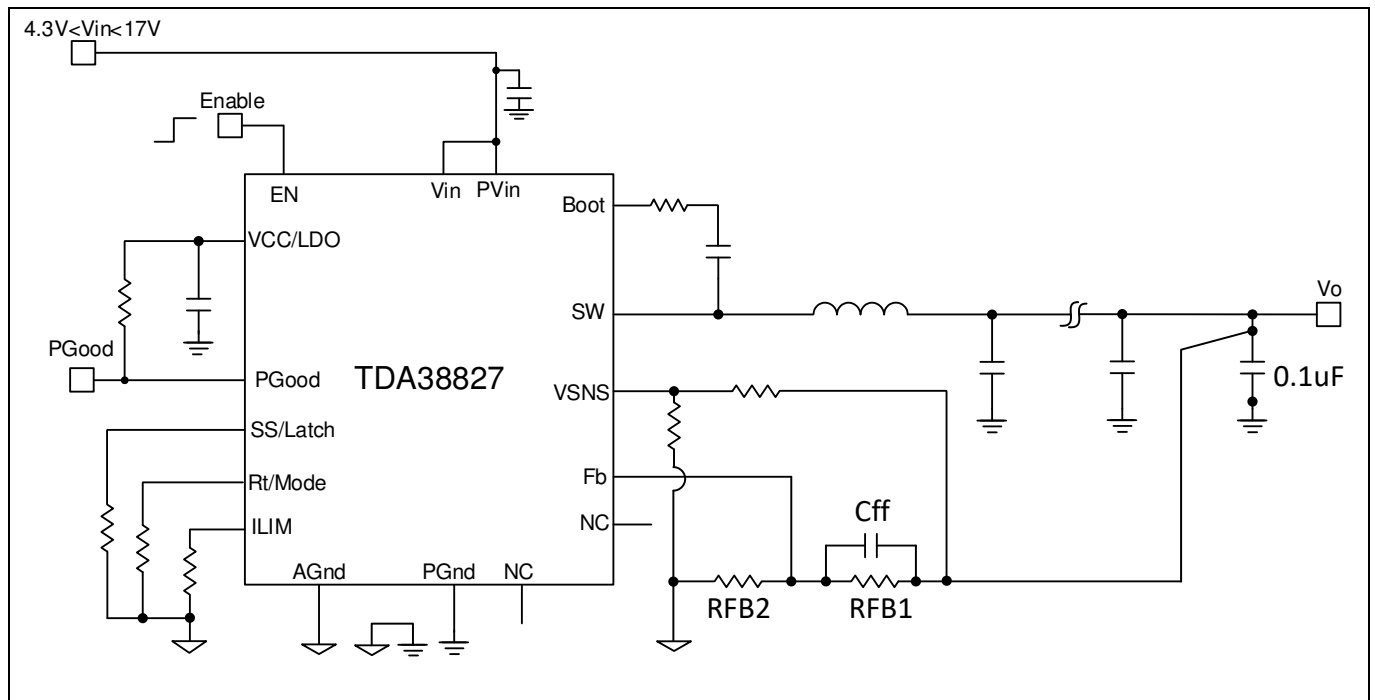

Figure 23 Single-ended V_o sense configuration
- To implement the V_o sensing, following design guidelines should be followed, as illustrated in **Figure 23**.